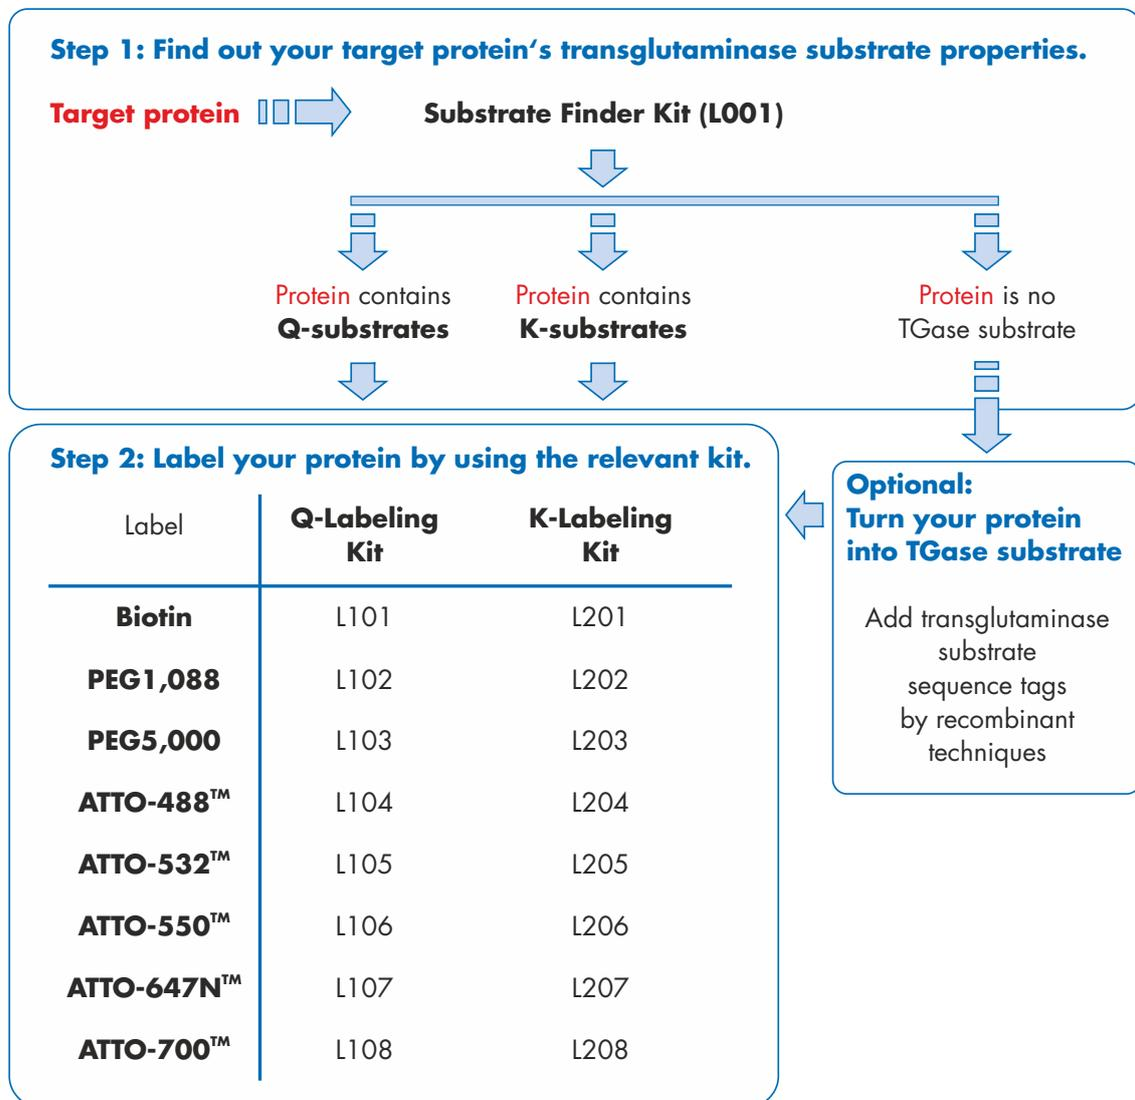

Figure 3: Substrate Finder Kit based choice of labeling kit.
Transglutaminase labeling requires accessible glutamine (Q) or lysine (K) residues on the target protein surface. Our **Substrate Finder Kit (L001)** allows the determination of substrate properties of your target protein. The results obtained by **Substrate Finder Kit** will indicate which **Labeling Kit** is appropriate to introduce the desired label into your target protein, as depicted in Figure 3.